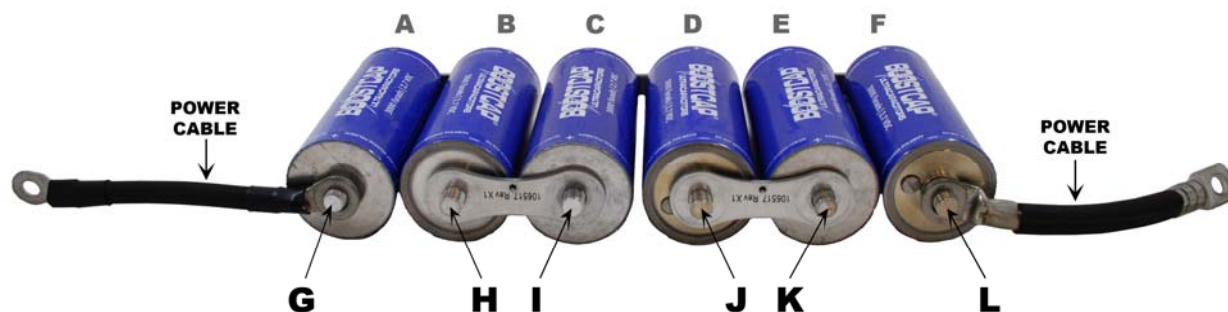

Figure 7
3.2.6 Place 1/8 inch thick lugs attached to power cables (1/0 AWG cables shown in Figure 7) over the remaining two threaded terminals of the cells at the ends of the series and a washer over each lug. (Figure 7, G and L). It is important to use a lug plus an aluminum washer that together have a minimum combined thickness of 1/8 inch. This prevents the voltage management boards (which are attached in the following step) from being stressed due to uneven stack up of the elements bolted to the cell.